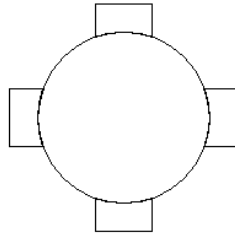

Fig. 1.7.22
**Main:** Retain the main object and the none-overlapping parts of the other objects, see Fig.1.7.22.